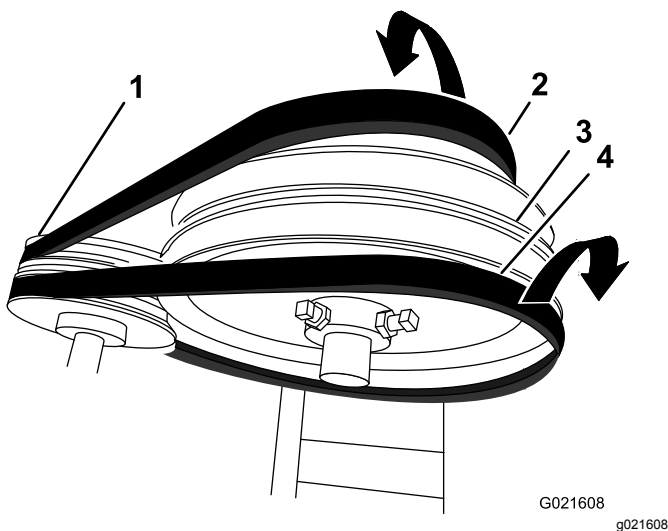

Figure 38
- Slip the forward belt forward and off the idler pulley (Figure 38).
- Slip the rear belt rearward and off the idler pulley (Figure 38).